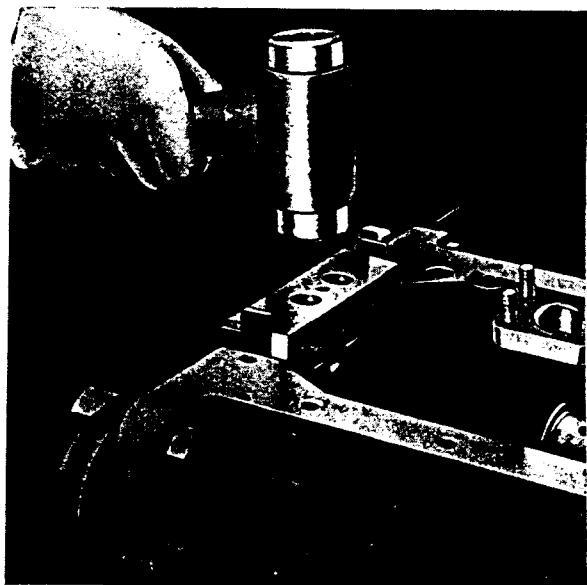

FIG. 48
- bearing, as shown in Fig. 48 afterwards screwing down the two cheese headed security screws.